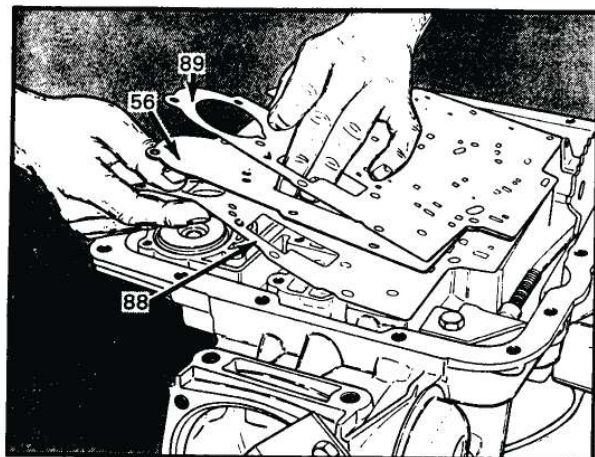

Figure 189
1. Rotate transmission so that bottom pan area is facing up, as shown in Figure 189, and lock fixture.
7. Install case to spacer plate gasket over dowel pins and onto the case surface. This gasket is stamped with a "C" for identification (See Figure 189).
9. Install spacer plate to valve body gasket over dowel pins and onto the spacer plate. This gasket is stamped with a "V" for identification (See Figure 189).